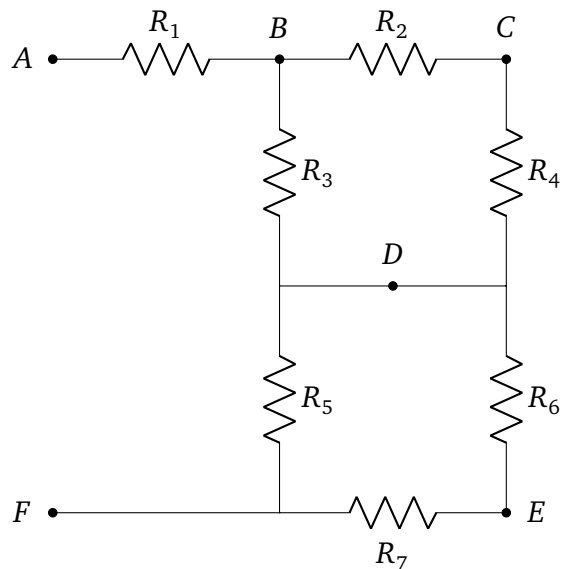
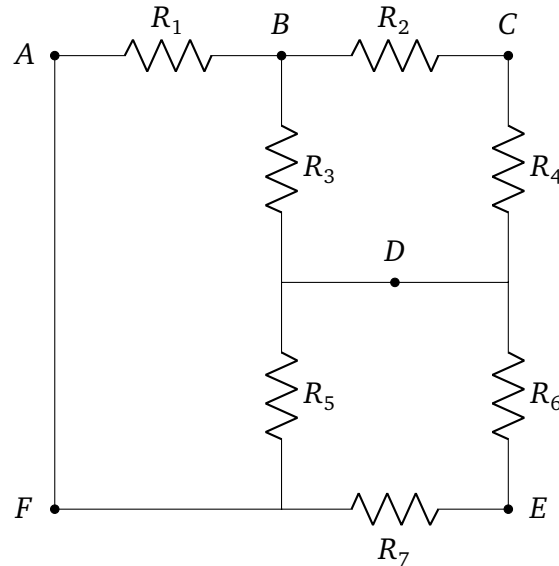

Figure 5: Procedure A Resistor Network
Figure 6: Changed Resistor Network
1. Create a new Excel document and examine the schematic in Figure 5.
Use the resistor values below for Figure 5.
6. Change the circuit in Figure 5 so that it has a short circuit between nodes A and B. Repeat steps 3-5 with this new circuit.
3. All tables must be labeled clearly. For instance, it should be obvious which tables are for Figure 5 vs Figure 6.